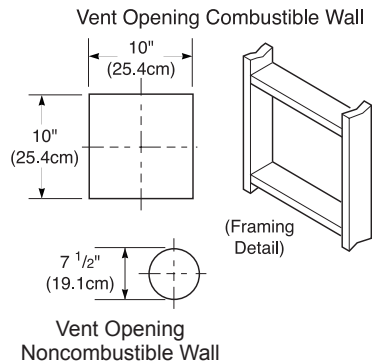

Figure 13 - Vent Opening Requirements
able). See Figure 13. The center of hole should line up with the center line of the horizontal rigid vent pipe. Cut a 10"x10" (25.4 cm x 25.4 cm) square hole through combustible exterior wall (7 1/2" [19.1 cm] diameter hole if noncombustible). Frame as necessary (see Figure 13).
1. Cut a 10" (25.4 cm) square hole in the ceiling using the locating hole as a center point. The opening should be framed to 10"x10" (25.4 cm x 25.4 cm) inside dimensions, as shown in Figure 13 on page 12 using framing lumber the same size as the ceiling joists. If the area above the ceiling is an insulated ceiling or and attic, nail firestop from the top side. This prevents loose insulation from falling into the required clearance space. If the area above the ceiling is a living space, install
3. Cut a hole in the roof using the locating hole as a center point. (Cover any exposed open vent pipes before cutting hole in roof.) The 10"x10" (25.4 cm x 25.4 cm) hole must be measured on the horizontal; actual length may be larger depending on the pitch of the roof. There must be a 1" clearance from the vent pipe to combustible materials. Frame opening as shown in Figure 13 on page 12.